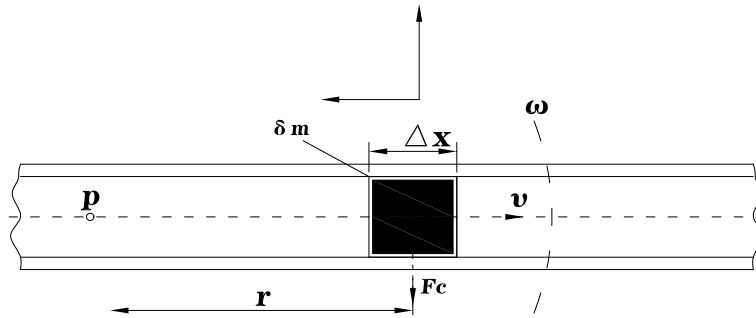

Figure1.1
If a pipe is rotated around a point (P) while liquid is flowing through it (toward or away from the center of rotation), that fluid will generate an inertial force, with reference to Figure 1.1:
The force generated by tangential acceleration is Coriolis force, its value is equal to $F_c = 2\omega v \delta m$. In figure1.1 fluid $\delta m = \rho A \times \Delta X$, So Coriolis force can be expressed as: